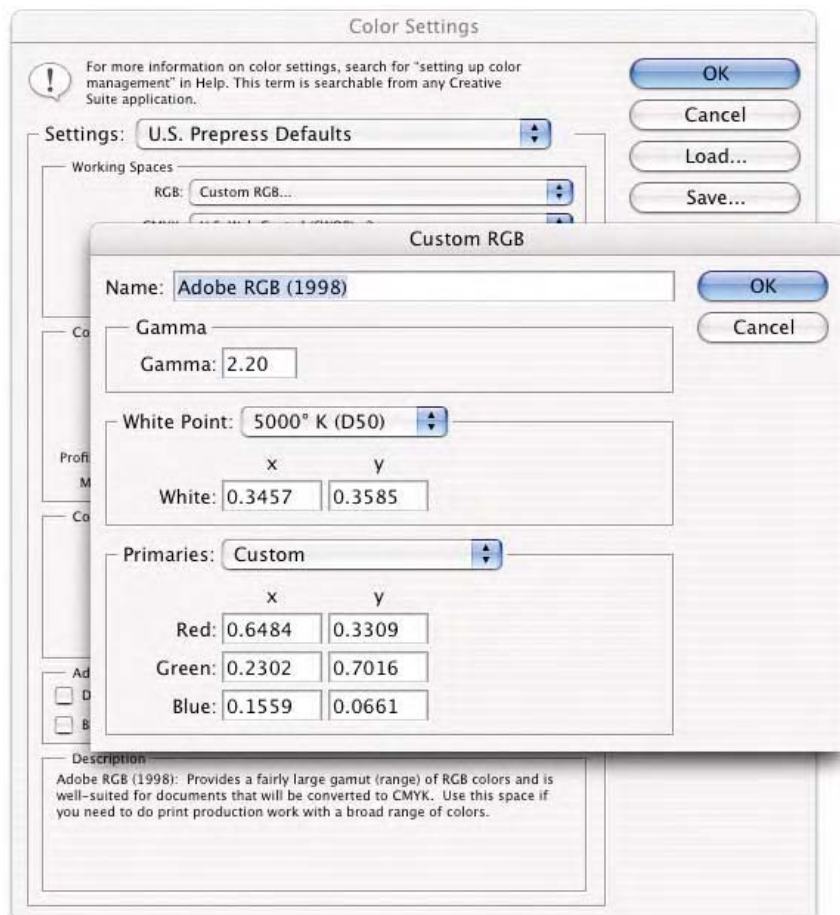

Fig. 9-11-1 The **Custom** dialog shows the gamma, white point, and chromaticity values (called primaries) of the selected RGB working space.
4. Let's say you pick Adobe RGB as the working space that produces the best overall match of the Macbeth. We will now alter that working space while examining the preview of the camera file. To do this, pick **Custom** at the top of the RGB pop-up menu. It should look like Fig. 9-11-1 [in this case we are working with Adobe RGB (1998)]. Notice that we have several fields where we can enter numeric values. The first and easiest is the **Gamma** field. In this case, Adobe RGB (1998) has a gamma of 2.2. You can alter these values until the overall tonal quality of the preview appears best. You might need to raise or lower the gamma value. Start with the number next to the first decimal point to change the preview subtlety. At some point, you should find a gamma value (for example, 1.9) that produces the best image matching to the target.